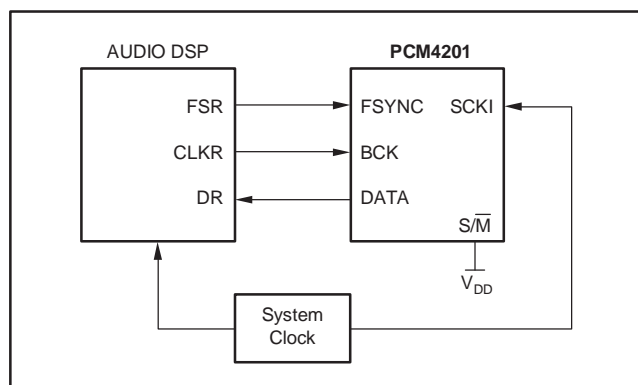

Figure 5. PCM4201 Slave Mode Configuration
Slave mode operation requires that the FSYNC and BCK clocks be generated from an external audio processor or master timing generator, as shown in Figure 5. Both clocks are inputs in Slave mode. The FSYNC clock rate is the equal to the desired output sampling frequency, f_s . The FSYNC high pulse width must be equal to at least one BCK clock period. The BCK clock rate should be $128f_s$ for Normal Speed, High Performance sampling mode. A BCK rate equal to $64f_s$ results in no output for this sampling mode. For Normal Speed, Low Power sampling mode, the BCK rate may be $64f_s$ or $128f_s$. See Note (2) in Figure 3 regarding the FSYNC edge used for start of frame when BCK = $128f_s$ for this sampling mode. For Double Speed sampling mode, the BCK rate should be $64f_s$.